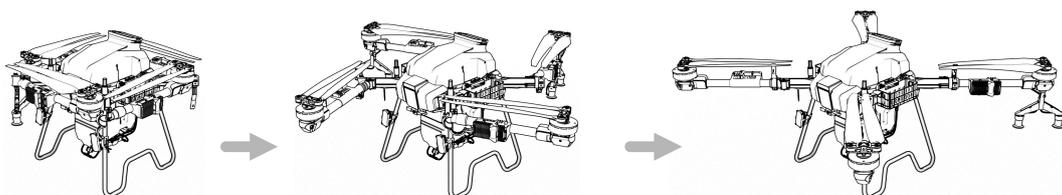

Figure 1-33 Arm Unfolding
Step3: Unfold the arms. See Figure 1-33.